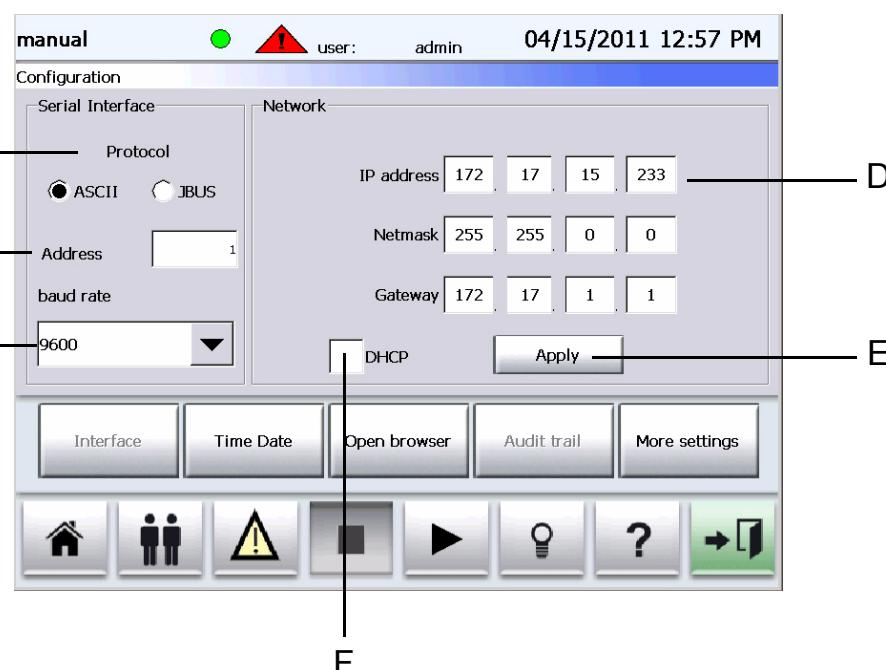

Fig. 3-12
- Enter the IP address, the subnet mask and the default gateway → *Fig. 3-12 ,Pos. D.*
- disclose the IP address to controller → *Fig. 3-12 ,Pos. E.*